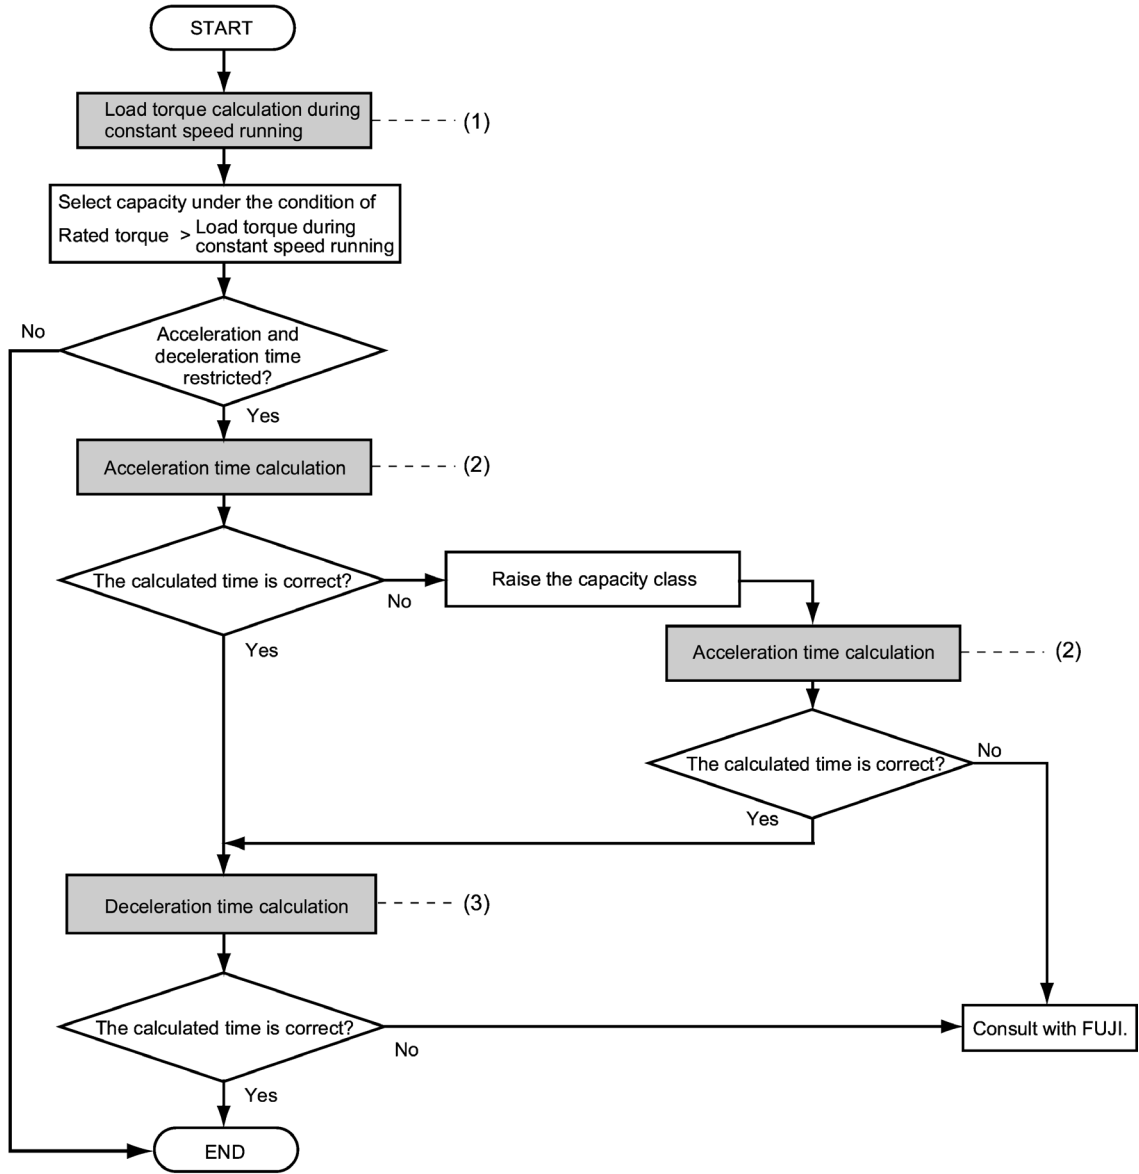

Figure 7.3 Selection Procedure
Figure 7.3 shows the general selection procedure for optimal inverters. Items numbered (1) through (3) are described on the following pages.